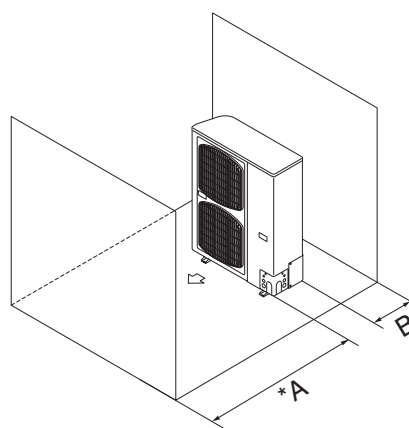

Fig. 2-14
- (2) Obstructions on the front side and rear side (Left side, right side and above the unit are opened). (Fig. 2-14)